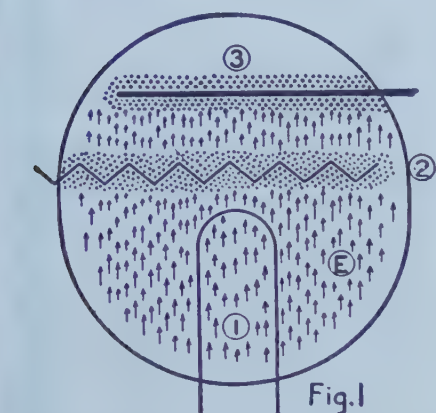

Fig. 1
(1) The maximum radiation from a vertical antenna, especially if it is stimulated by harmonics, projects obliquely upward at an angle. (See Fig. 1.)
Fig. 2—A "celestial" vacuum tube, in which the sun gives off the electronic stream in the direction of the arrows. The various planets may be taken respectively as plates and grids in a multi-element tube; while the atmospheres of the planets are analogous to the gas adhering to the plate and grid, as shown in Fig. 1.
Fig. 1 shows the interior of a vacuum tube where (1) is the filament, E is the stream of electrons going in the direction of the arrows, (2) is the grid, (3) is the plate. The small dots surrounding the grid and plate indicate a layer of gas always adhering to metals, a miniature Heaviside layer, which the electrons must pierce.
Incidentally, interplanetary conditions are about the same as we find in our present vacuum tubes. Fig. 1 shows a vacuum tube, in which (1) is the filament; (2) the grid; (3) the plate. Electrons are given out by the filament (1), and shoot in the direction of (3); but, surrounding the grid and the plate, there is a miniature Heaviside layer, composed of a slight amount of gas, which surrounds all metallic and other matter, and which the electrons must first pierce before they can reach the grid or the plate.